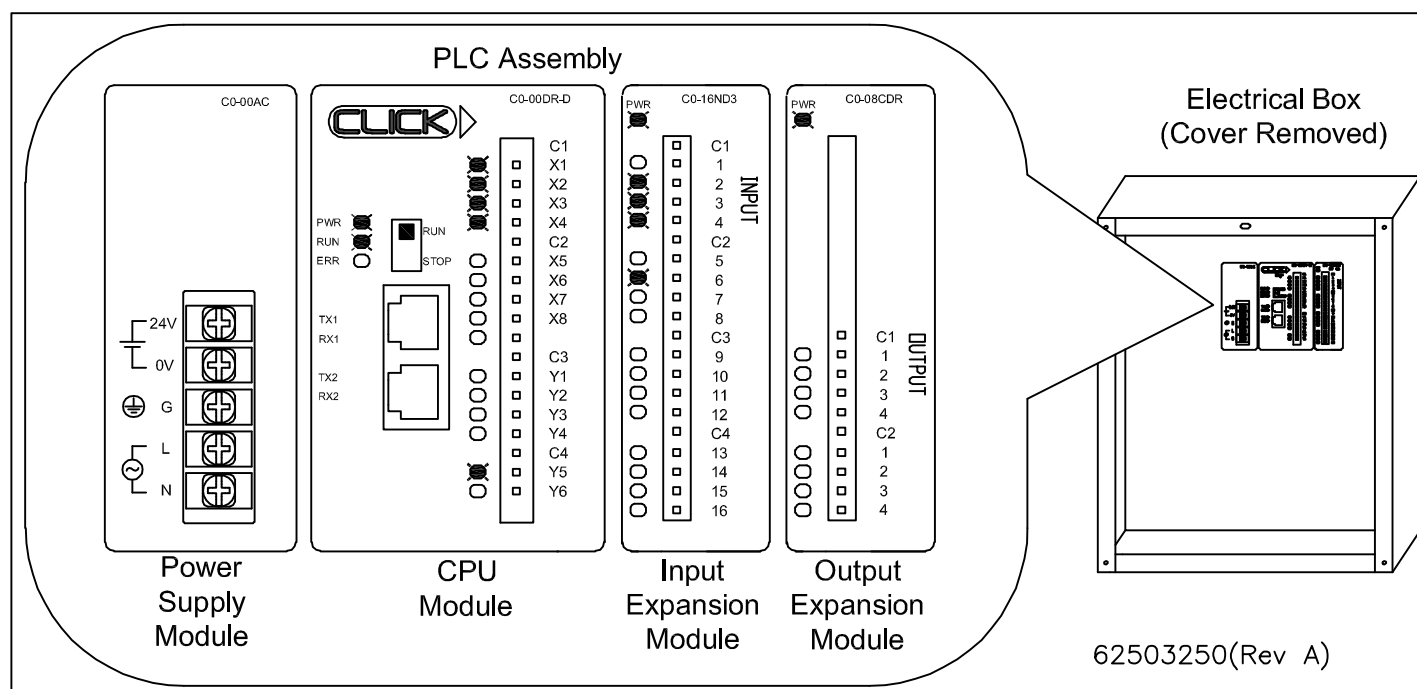

Figure 9
1. Refer to Figure 9 and PLC LED indicator status tables.
2. Figure 9 illustration represents normal LED status when:
| Refer to PLC LED indicator status tables and Figure 9 for detailed information on PLC Inputs and Outputs status and trouble shooting. | | |